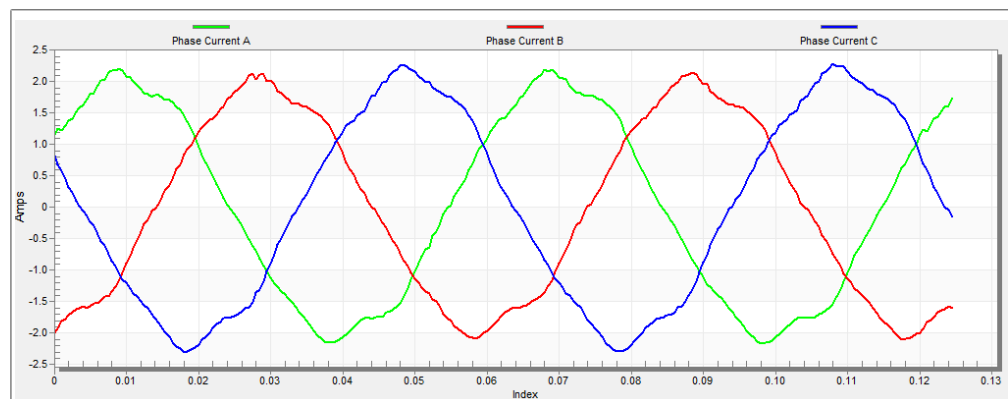

Figure 19. Phase currents
- The optimal ratio for the V/Hz profile can be found by changing the V/Hz factor directly using the “M1 V/Hz factor” variable. The shape of the motor currents should be close to a sinusoidal shape (Figure 19). Use the following equation for calculation V/Hz factor: